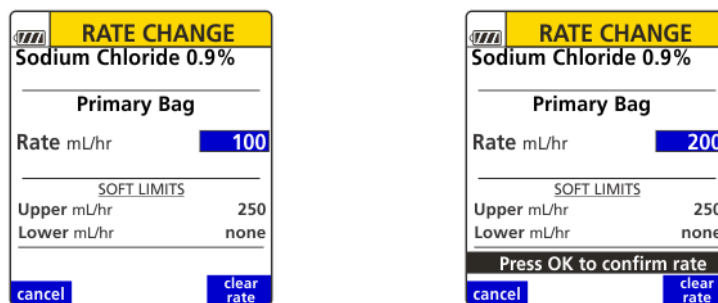

Figure 81. Rate Change Screen.
2. Observe the displayed mL/hr soft limits. See Figure 81.
3. Enter a new mL/hr flow rate. See Figure 81.
4. Press **OK** to confirm new flow rate. See Figure 81.